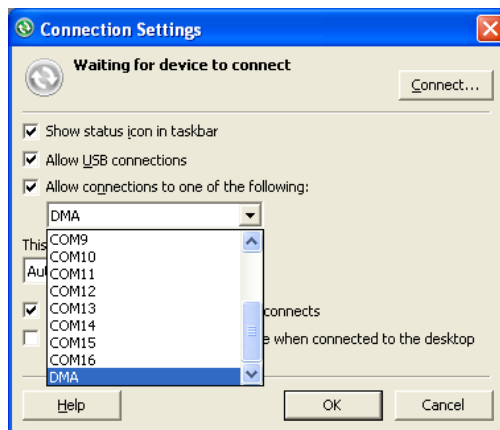

Figure 7.14
2. In **Connection Settings** screen, check in the **Allow connections to one of the following** box and choose **DMA** in the pull-down menu. See Figure 7.14.